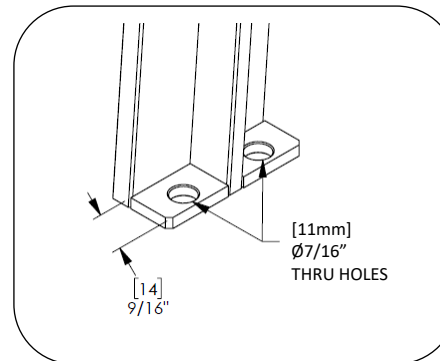
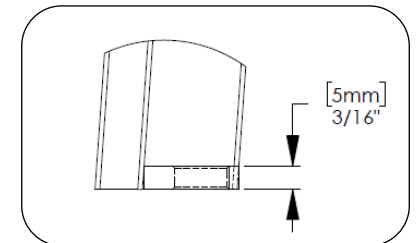

Fig. 1 – Surface mount tab detail
Fig. 2 – surface mount tab thickness
4. Drill holes according to anchor manufacturer's recommendations and clear holes of debris. Refer to Fig. 1 and Fig. 2 for anchor sizing guidelines.